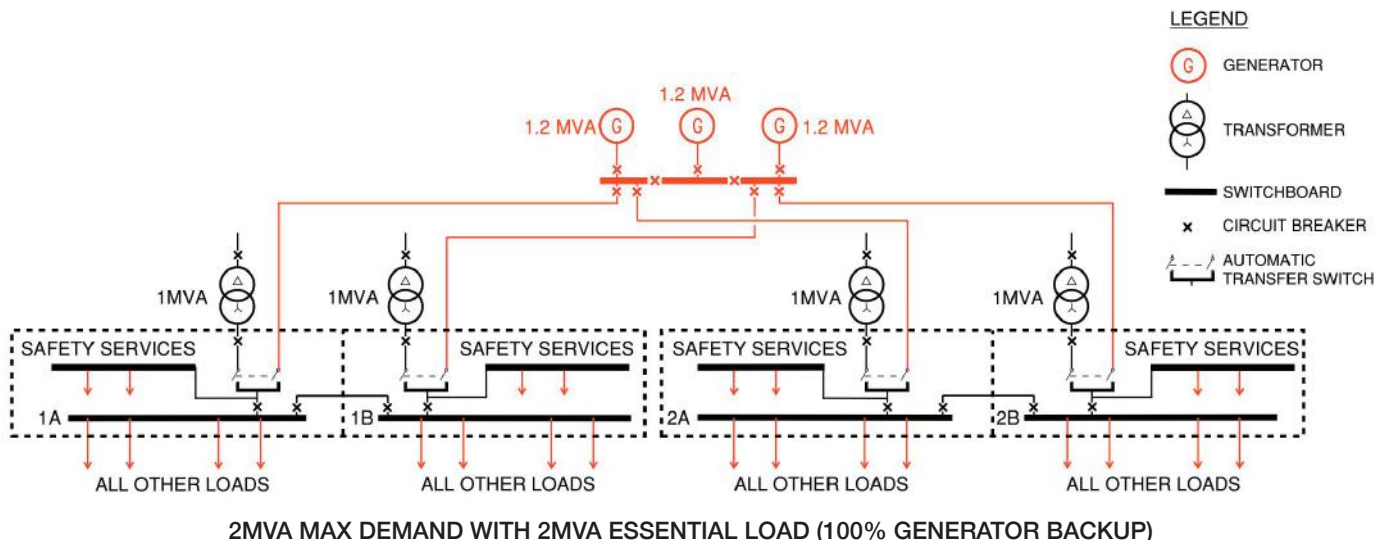

Figure 4 – Main Electrical Distribution with 100% Generator Back-up.
*If 100% generator back-up were to be provided to the whole hospital, the main electrical distribution for the same sized hospital would look like Figure 4.*